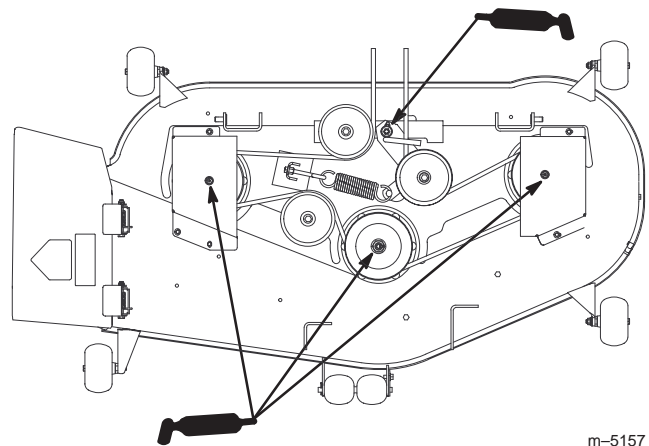

Figure 32
2. Grease the fittings on the three spindle bearings (Fig. 32).
3. Grease the idler pulley pivot (Fig. 32).